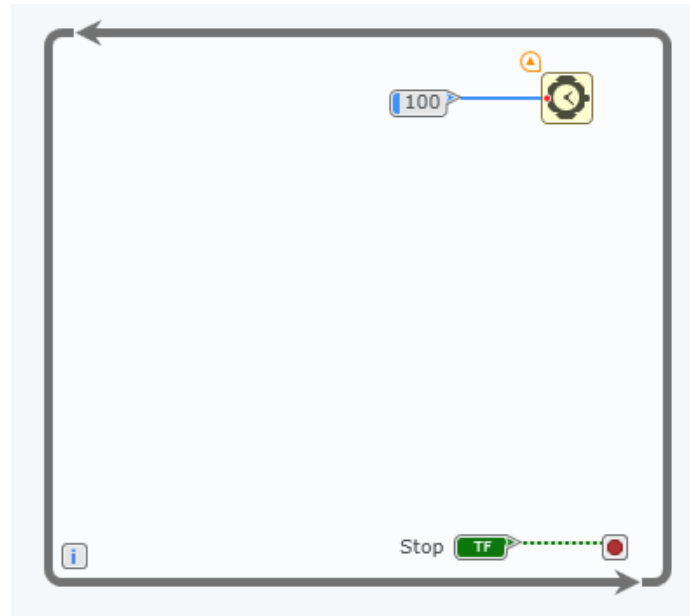

Figure 3.6: Basic Configuration of a Program in LabVIEW: While loop, Wait block and Stop button
2. Open a LabVIEW Communication. Make a New Project. In the diagram panel, insert a "while loop" and "wait" block. Insert a "numeric constant". Connect the "wait" block to the "numeric constant" and set its value to 100. Select the panel tab. Insert a "Stop button". Again, select diagram tab and update it (insert the stop button). Connect the stop button to the "condition" part of the while loop. See Fig. 3.6